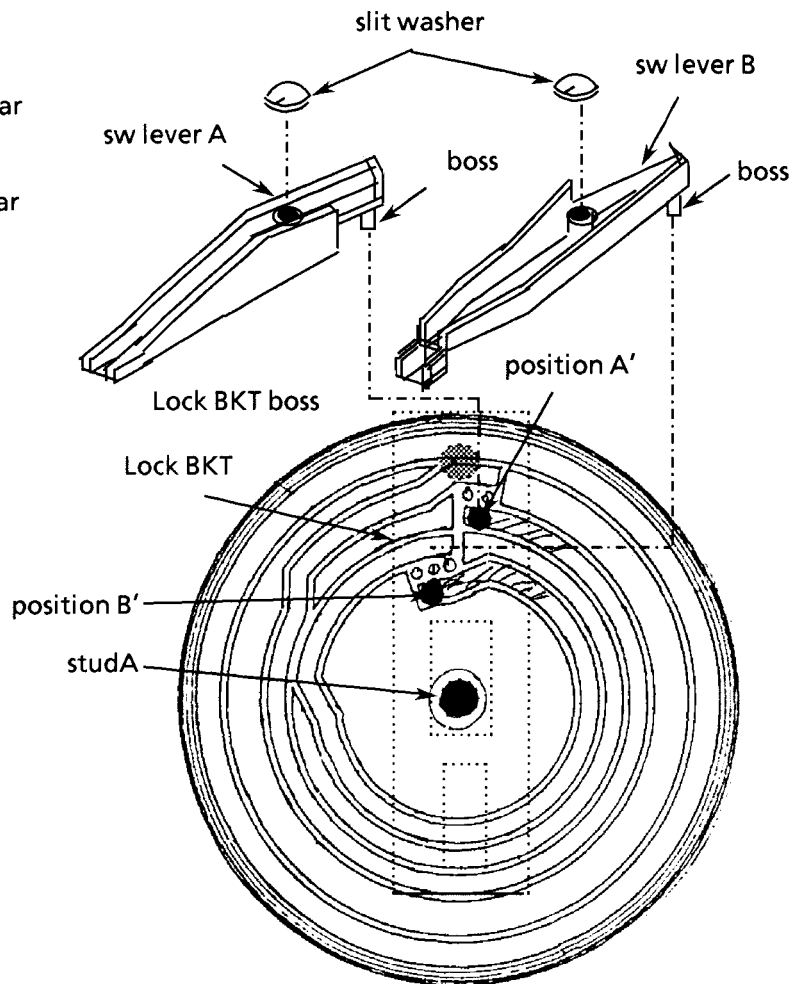

Fig 11. Main gear View
4. Insert the main gear to studA shown Fig 11.
(11) Mount the sw lever
- 1 Insert the sw lever A boss to the main gear A' position shown in Fig 11 .
3. Insert the sw lever B boss to the main gear B' position shown in Fig 11 .
(12) Mount the sw P.C.board(ENN-393-1)
- 1 Rotate the main gear so that stop position shown in Fig 11 .